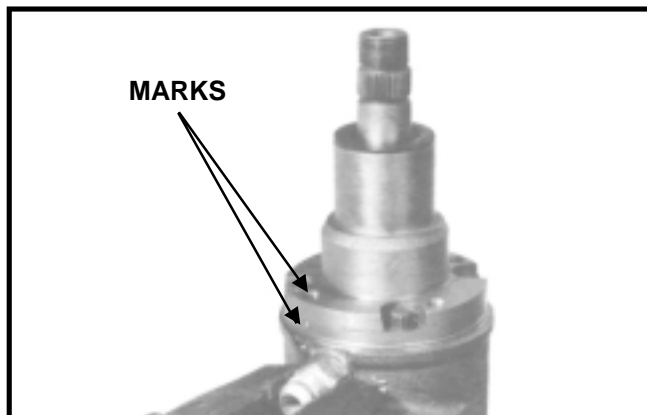
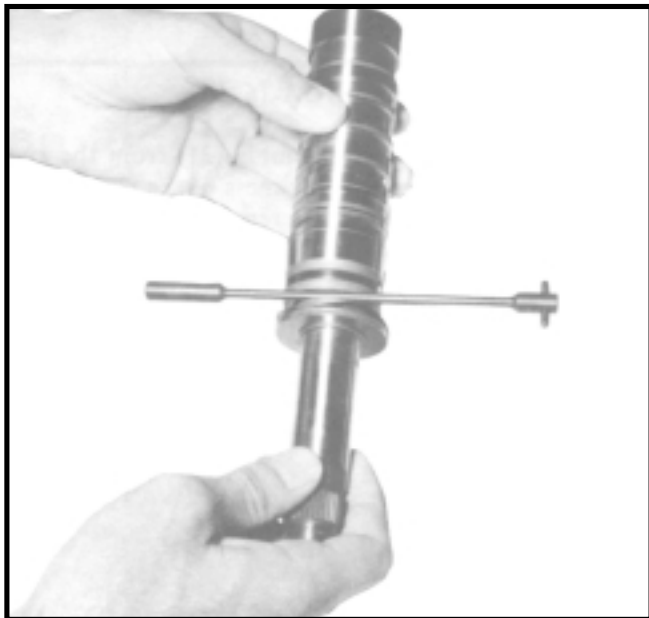

Figure HGA-11
Figure HGA-17
10. Reverse the HGA unit in the vise to place the input shaft (16) in a vertical position. Using a center punch, mark the upper cover flange (7) in relation to a similar mark placed on the port face of the housing (25) to facilitate reassembly. (See figure HGA-11).
1. Insert ball (26) into its cavity in the housing.
2. Install new "o" ring (27) on plug and roll-pin assembly (28) and install in the housing (25) to 10-14 ft. lbs. torque.
3. Reclamp housing (25) in the vise as shown in Figure HGA-11.
4. Assemble thrust washer (13), thrust bearing (12), thrust washer (11) and retaining ring (10) on input shaft (16).
5. If the retaining spring (24) has been removed, install a new retaining spring. The spring must fit tightly.
6. Insert actuator ball (23) into ball seat located inside spool (22).
7. Assemble wave spring washer (14) over thrust washer (13) and thrust bearing (12). Insert the input shaft (16) into the spool, engaging the helix and ball with a counter-clockwise motion. This operation is best done while holding the spool in a horizontal position.
8. Using the mid-section of the torsion bar (20) as a gage, insert the gage between the spool end and the thrust washer (13). (See Figure HGA-17). This will position the spool in the necessary radial relationship with the input shaft spline teeth for assembly of drive ring (18).
9. Place the input shaft (16) and spool (22) assembly in a vertical position, with the shaft end on the table surface.